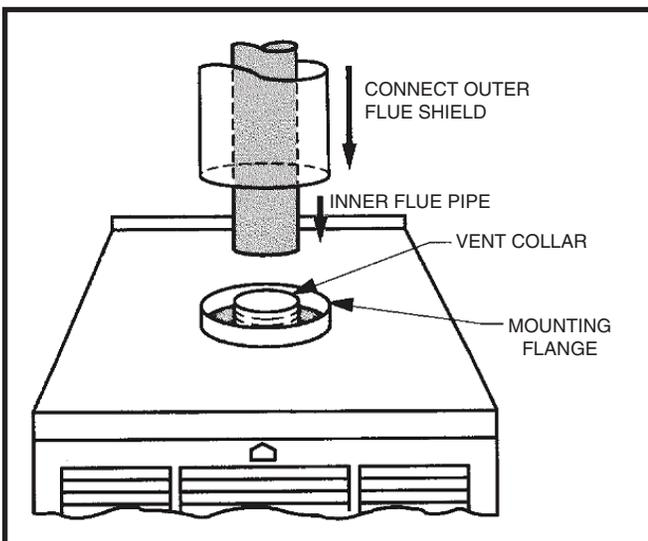

Figure 23. Combustion Air Pipe Connection
3. Connect inner flue pipe to vent collar of the furnace. See Figure 23.
4. Connect combustion air pipe to furnace collar with sheet metal screw. See Figure 23.